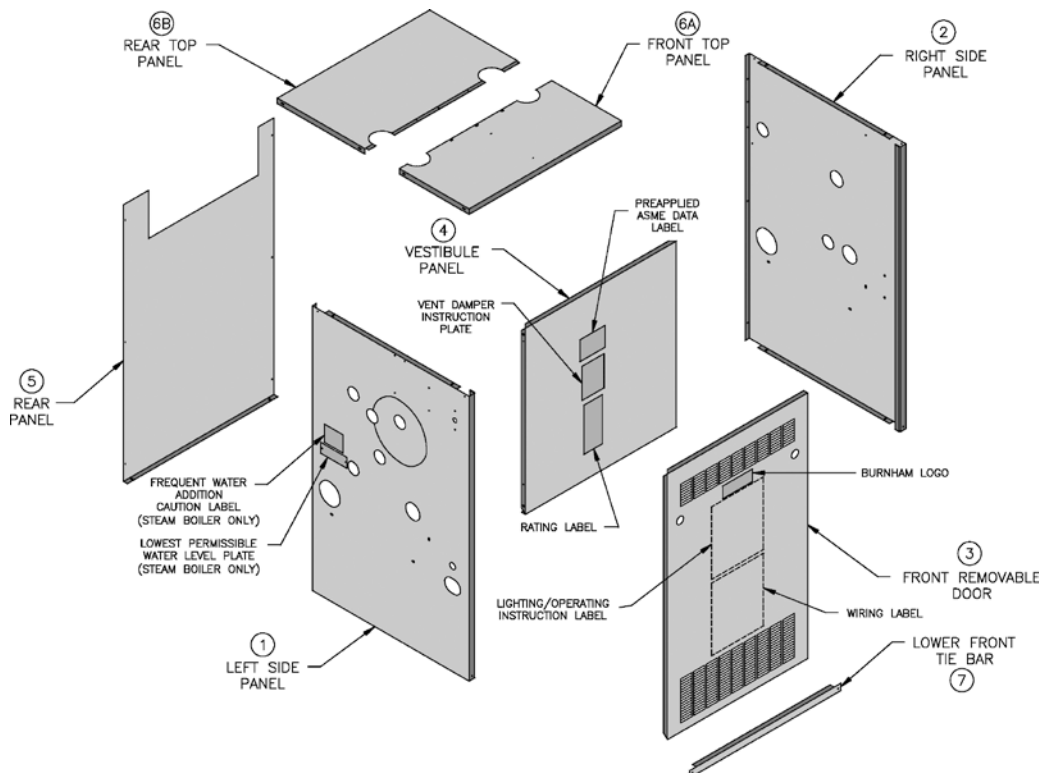

Figure 9: Jacket Assembly
F. Install Jacket. See Figure 9.
- h. Attach "Lowest Permissible Water Level" Plate with sheet metal screws in location indicated in Figure 9.
- e. Attach "Lowest Permissible Water Level" Plate with sheet metal screws in location indicated in Figure 9.